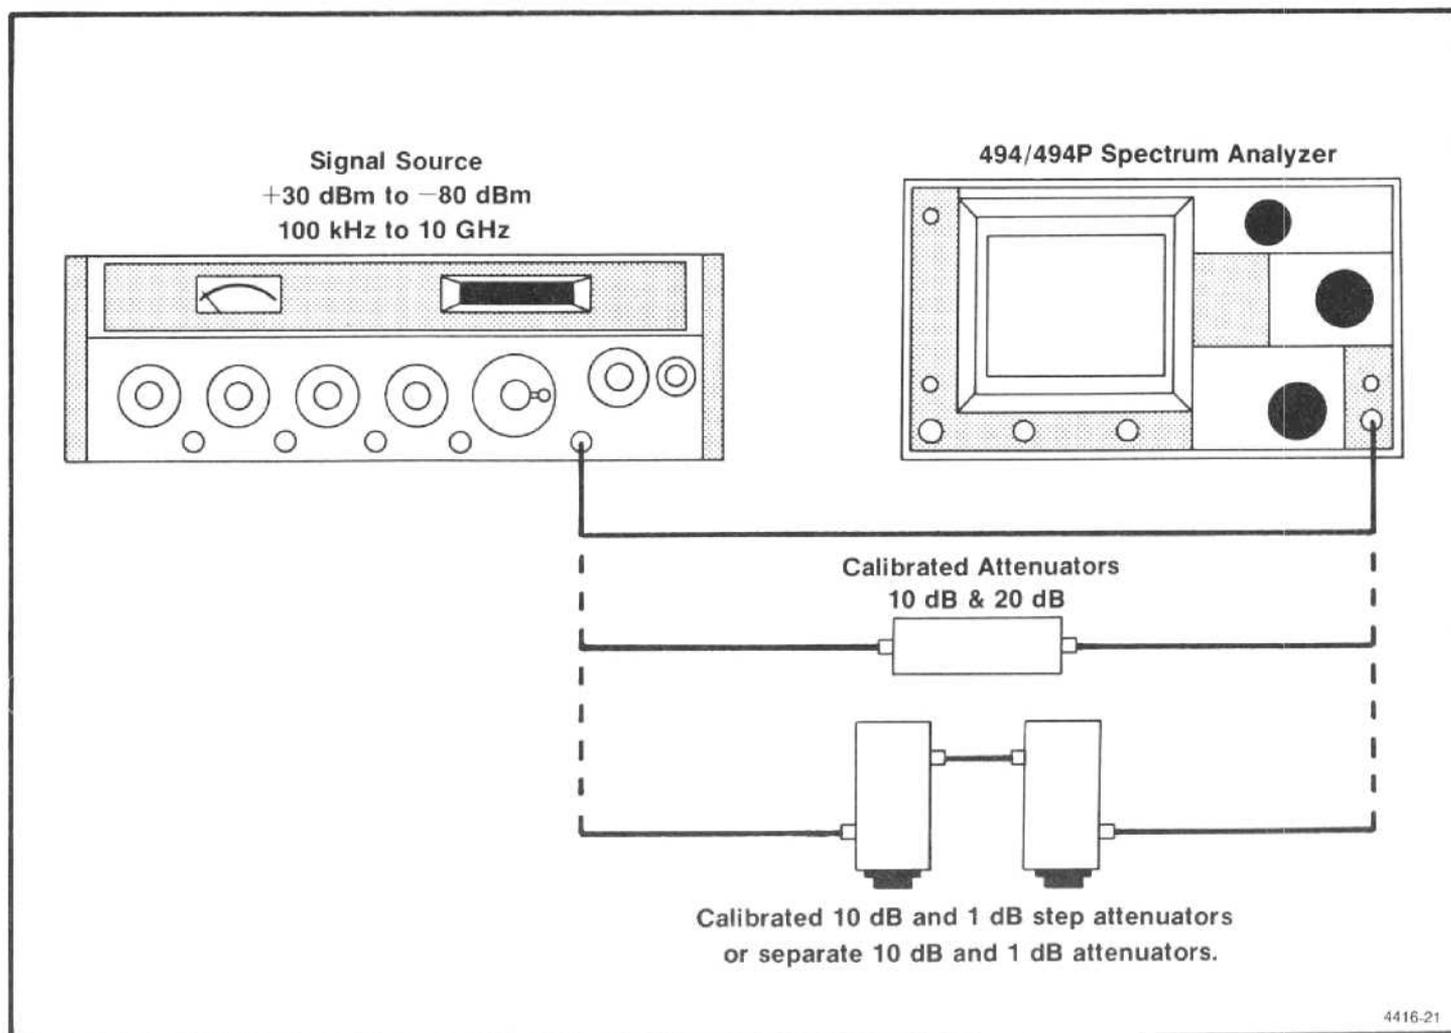

Figure 4-14. Test equipment setup for checking display accuracy, attenuator and gain accuracy, and preselector image rejection.
a. Test equipment setup is shown in Figure 4-14. Apply a 100 MHz, +10 dBm signal, from the Signal Generator, through external attenuators set to 0 dB, to the RF INPUT.
a. Test equipment setup is shown in Figure 4-14. Apply a 3.5 GHz, -30 dBm, signal from the Signal Generator to the RF INPUT.
a. Test equipment is shown in Figure 4-14. Apply a 0 dBm, 4 GHz signal, from a Signal Generator through 30 dB of calibrated attenuation, to the RF INPUT.
a. Equipment setup is shown in Figure 4-14. Apply a 100 MHz, -20 dBm signal, from the Signal Generator, through 10 dB and 1 dB step attenuators (set at 0 dB), to the RF INPUT; or, directly to the RF INPUT of the 494/494P, if individual fixed attenuators are to be used as the standard.